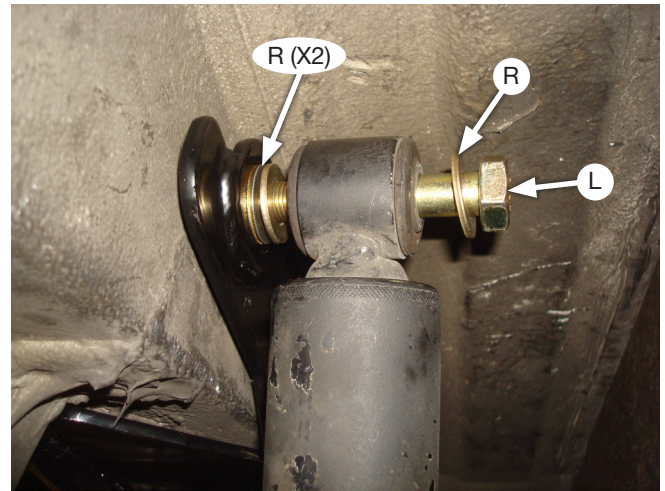

Fig. 18
- Align the front holes in the upper bracket with the shock mounting holes and insert an M14-1.50 X 90 Hex cap screw (L) through an M14 flat washer (R), then through the shock, two more M14 flat washers, through the bracket and screw into the threaded sleeve inside the frame. Leave loose at this time (Fig. 18).
- Align the forward, single outside hole in the upper brackets with the shock mounting holes and insert an M14-1.50 X 90 Hex cap screw (L) through an M14 flat washer (R), then through the shock, two more M14 flat washers, through the bracket and screw into the threaded sleeve inside the frame. Leave loose at this time (Fig. 18).